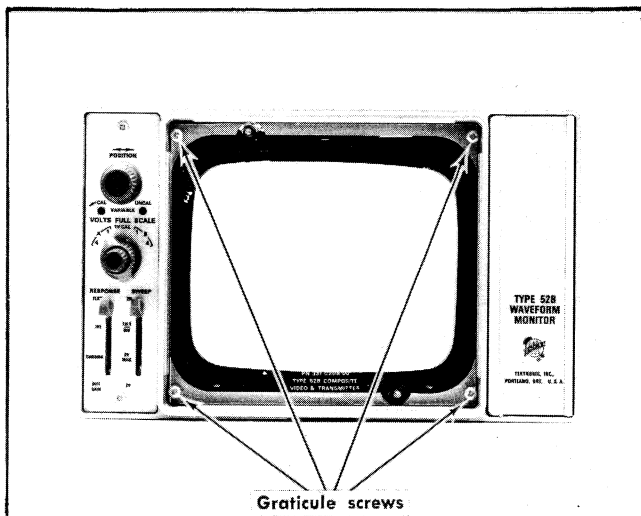

Fig. 4-8. Location of screws to remove graticule.
3. Remove four (4) phillips head screws holding the graticule as shown in Fig. 4-8.